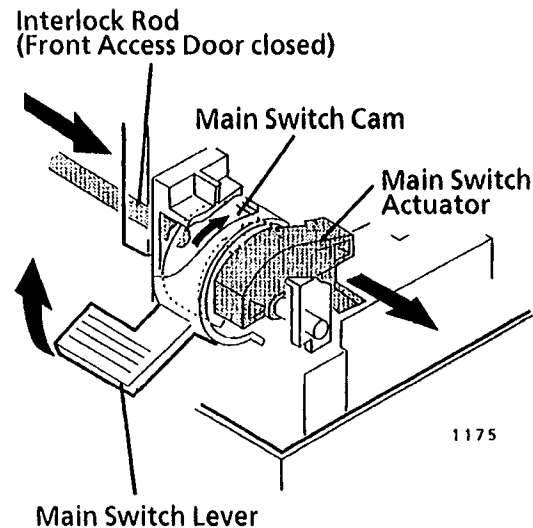

Figure 2. Sliding the Actuator
2. (Figure 2): When the power switch lever is pushed up, the rising part of the cam slides over the actuator. When the front access cover is closed, the actuator slides towards the rear frame.